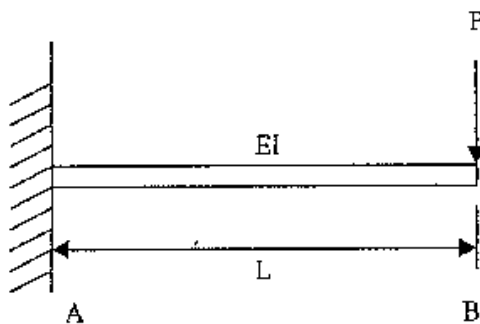

Fig. 3
3. (a) A cantilever beam is of uniform cross section and carries a load P at its free end as shown in Fig. 3. Determine the equation of the elastic curve and the deflection and slope at the free end. (15%)